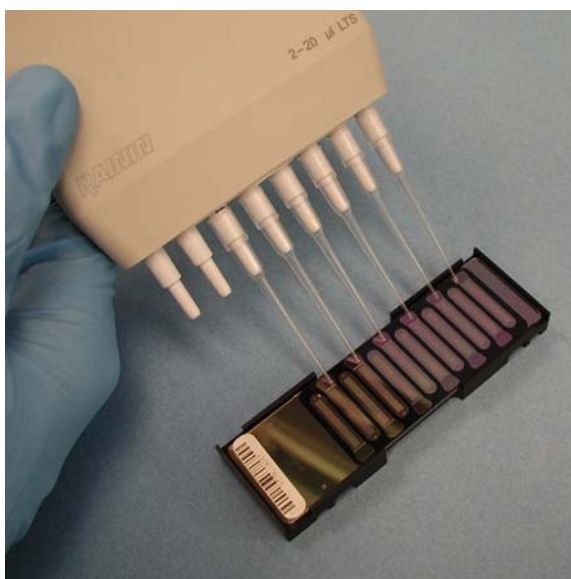

Figure 76 Dispensing Sample onto Arrays
- a. Load samples A1–A6 from the MSA2 plate to the left side of the BeadChip (Figure 76).